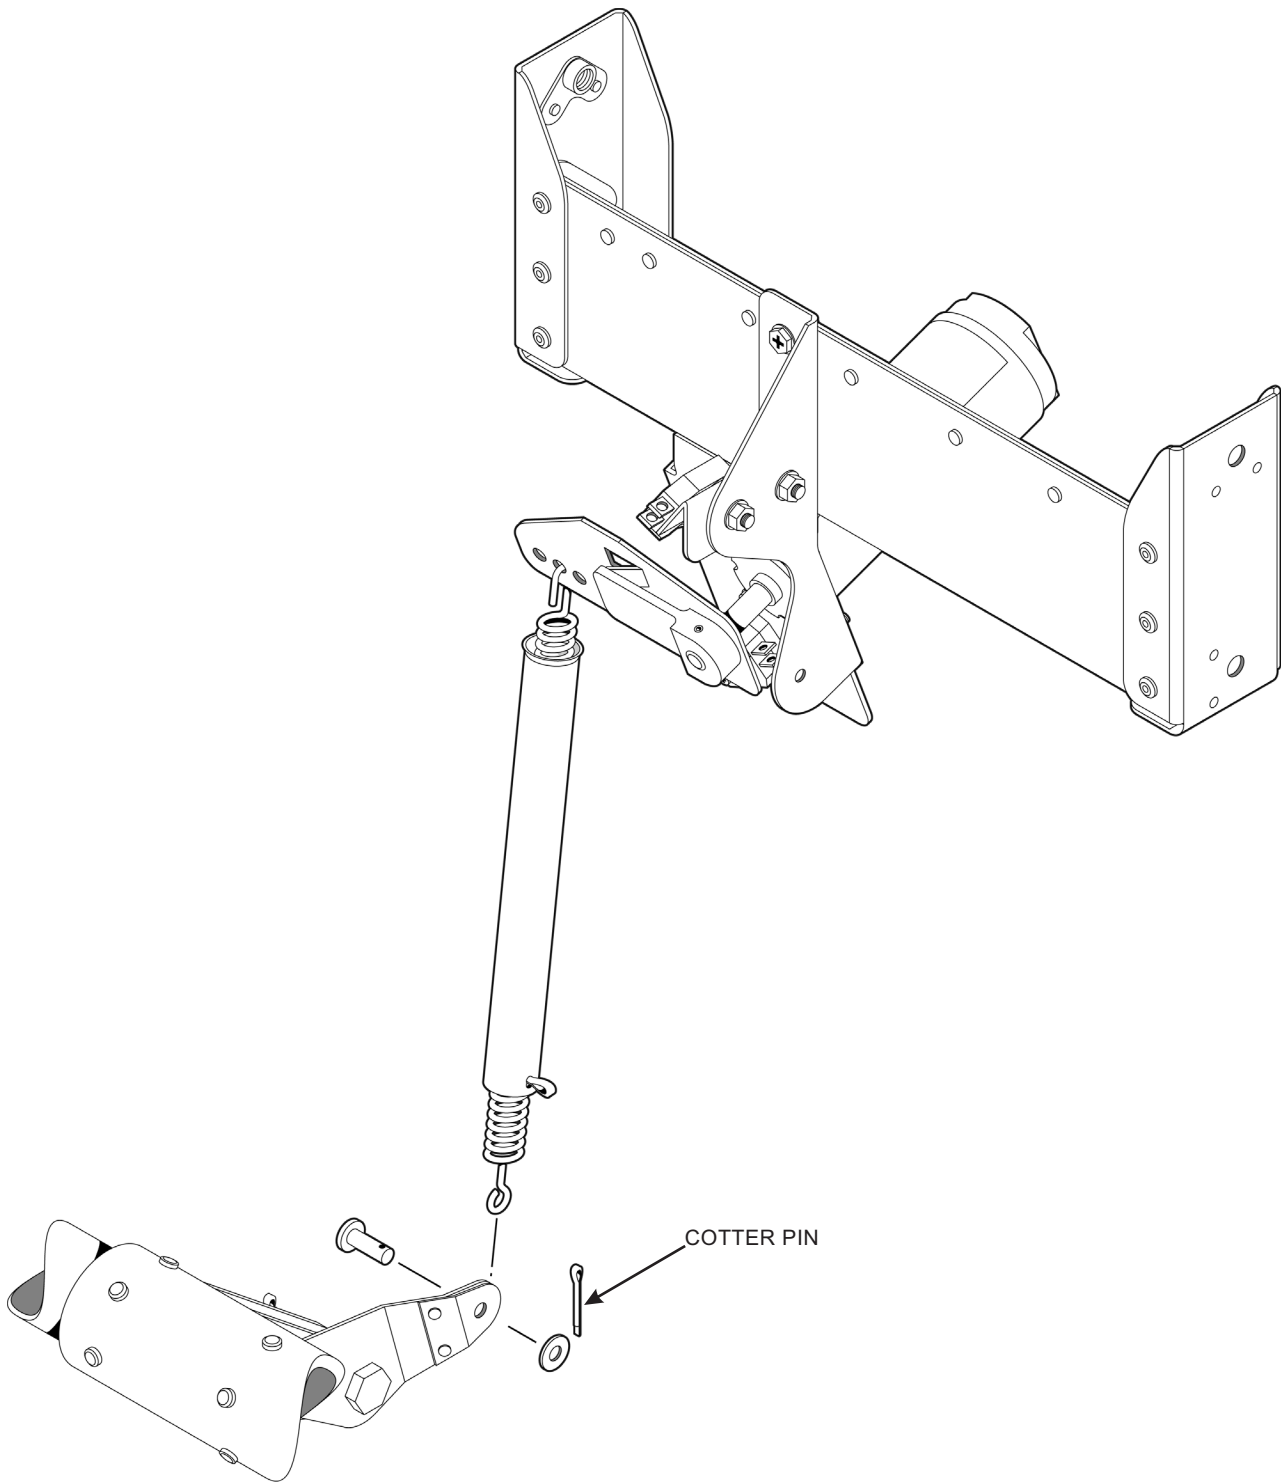

Figure DB-029-1. Longitudinal Trim Assembly Spring Attachment
- b. Locate clevis pin shown in Figure DB-029-1 and replace existing cotter pin that is installed in clevis pin with an MS24665-1011 cotter pin. Installation of the cotter pin should be in accordance with AC 43.13-1B Section 7, Paragraph 7-127.